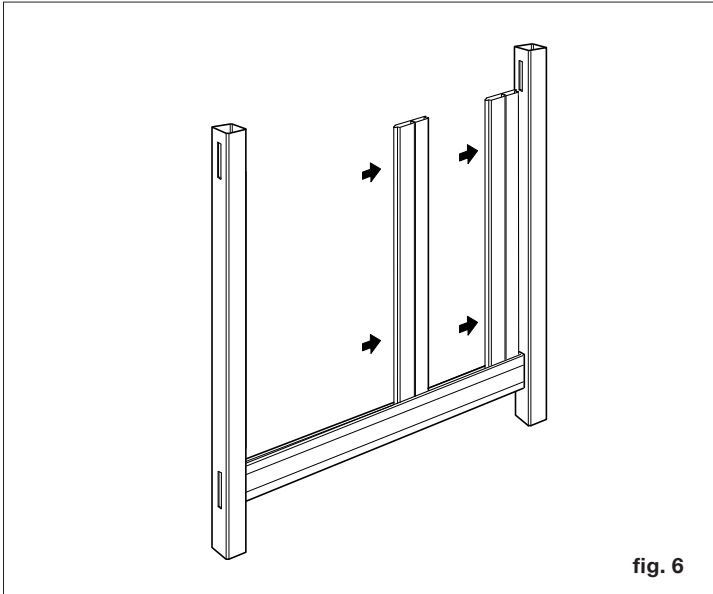

fig. 6
**STEP 4** – Starting from one end, slide pickets into the channel of the bottom rail. Make sure the tongue-and-groove pickets fit tightly together without gaps. Repeat until panel is complete (see fig. 6).